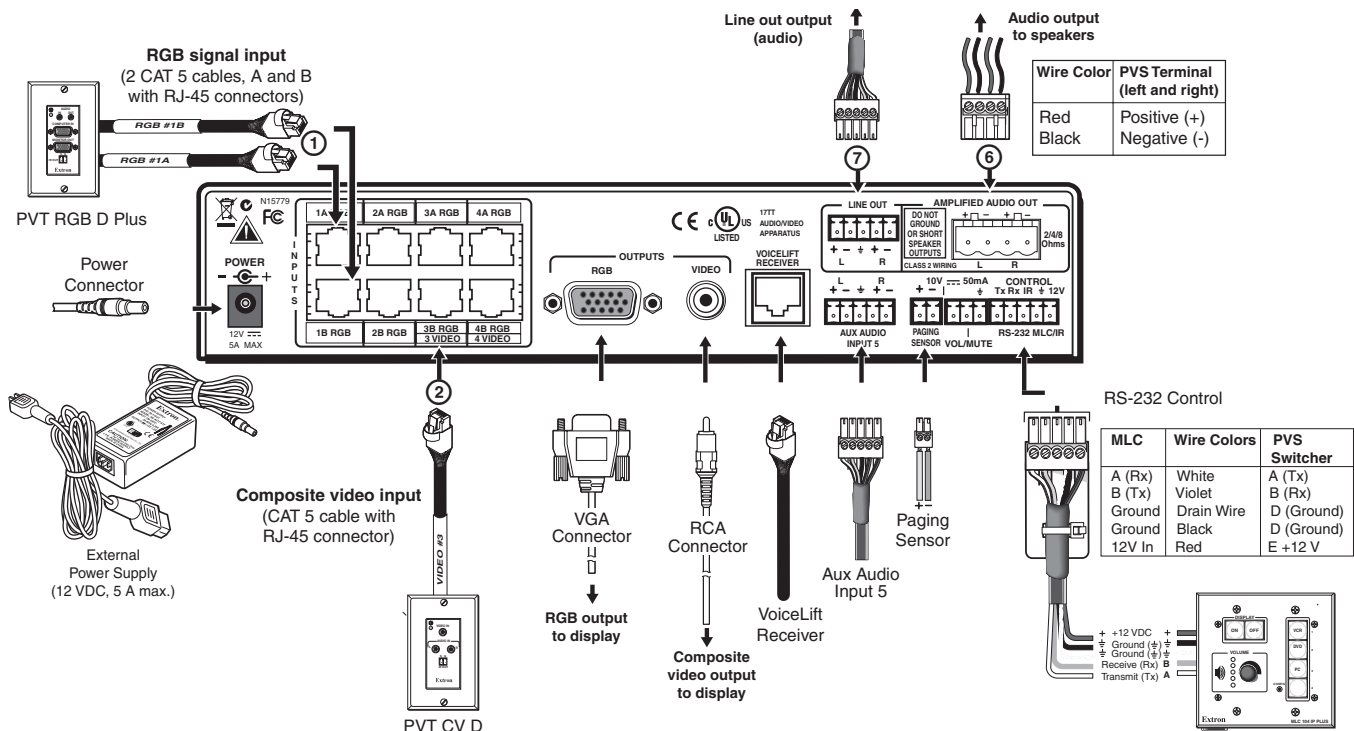

Figure 7. Cabling the switcher
- a. Connect the cables from the PoleVault wallplates, control device (MediaLink® Controller), speakers, and optional accessories (VoiceLift® and Page Sensor Kit) to the rear ports of the switcher (see figure 7 on page 4).